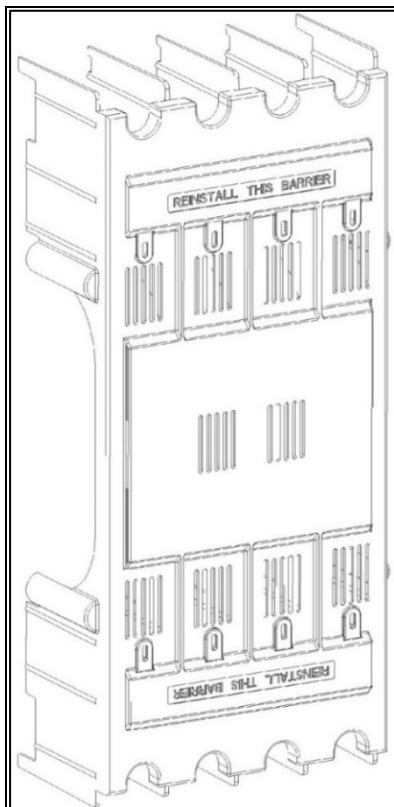

Figure 19. Barrier removal
3. **Remove the barrier** (Figure 19).
Install the barrier over the arc chutes. Use a phillips screwdriver to tighten (cw) the four or six round-head screws to secure the barrier to the arc chute insulator nuts. See Figure 19.